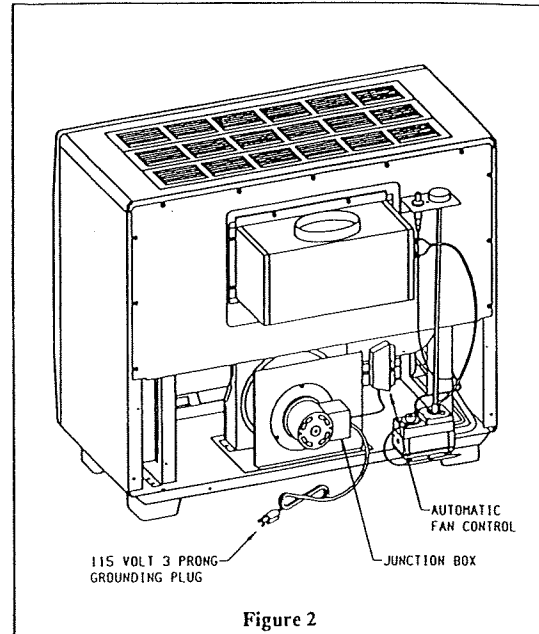

Figure 2
3. Align blower housing with blower cushion and use two, #10 x 1/2" hex-head screws to attach blower housing to bottom assembly. (See Figure 2)